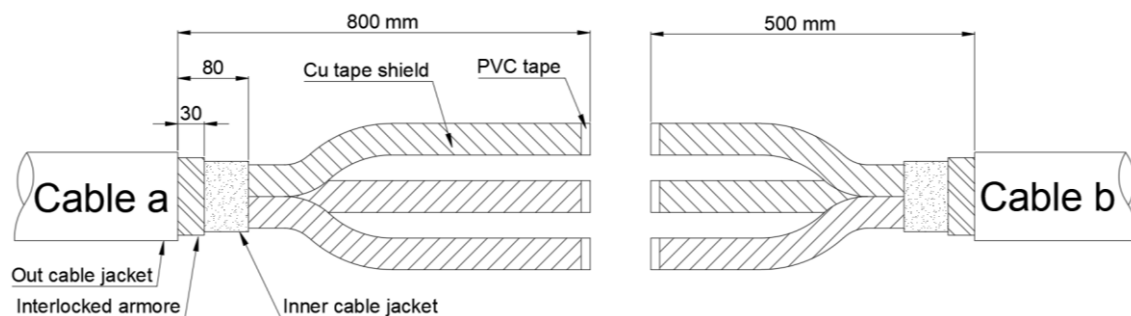

Fig.1
- Prepare cable using dimensions as shown in Fig.1.